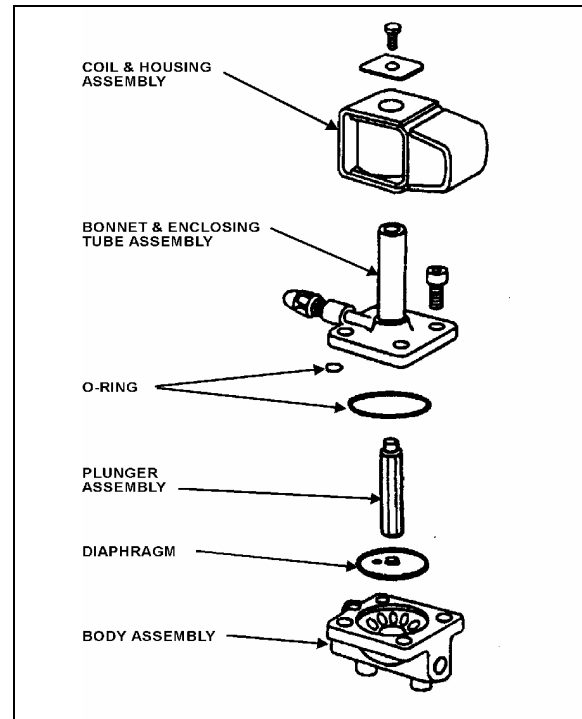

FIGURE 29: REFRIGERANT SOLENOID VALVE 22044
3. Remove the four socket head screws which hold the body and bonnet together (Figure 29).